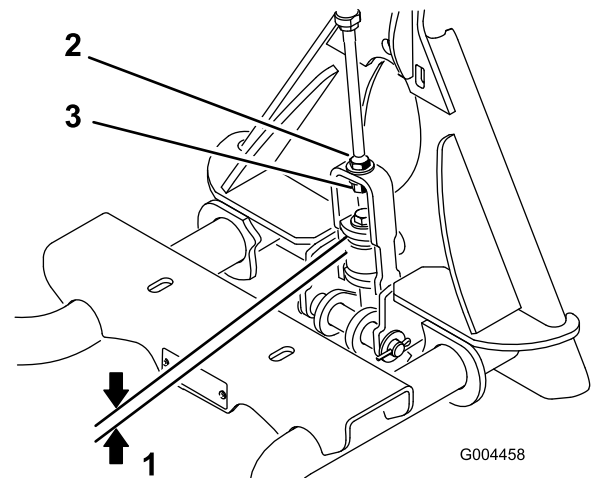

Figure 7
2. Measure the gap between the top washer and the spacer in the link assembly on the attachment adapter as shown in Figure 7.
Note: The gap between the washer and the shoulder should be 0.060 to 0.080 inch (Figure 7).
3. If the gap is not correct, loosen the jam nut and tighten or loosen the adjustment nut on the link assembly as needed to change the gap (Figure 7).